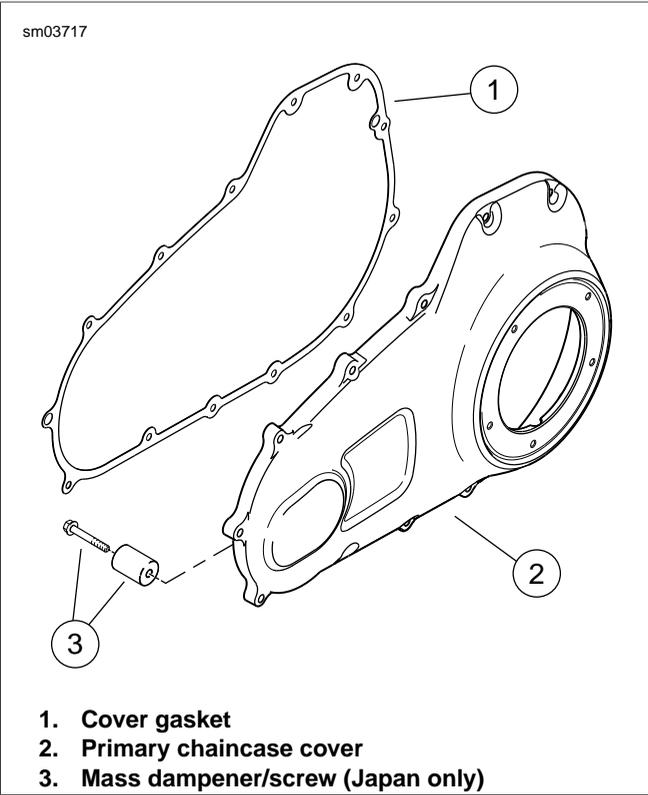

Figure 6-2. Primary Chaincase Cover Gasket: Touring Models
1. See Figure 6-2. Install **new** cover gasket (1).